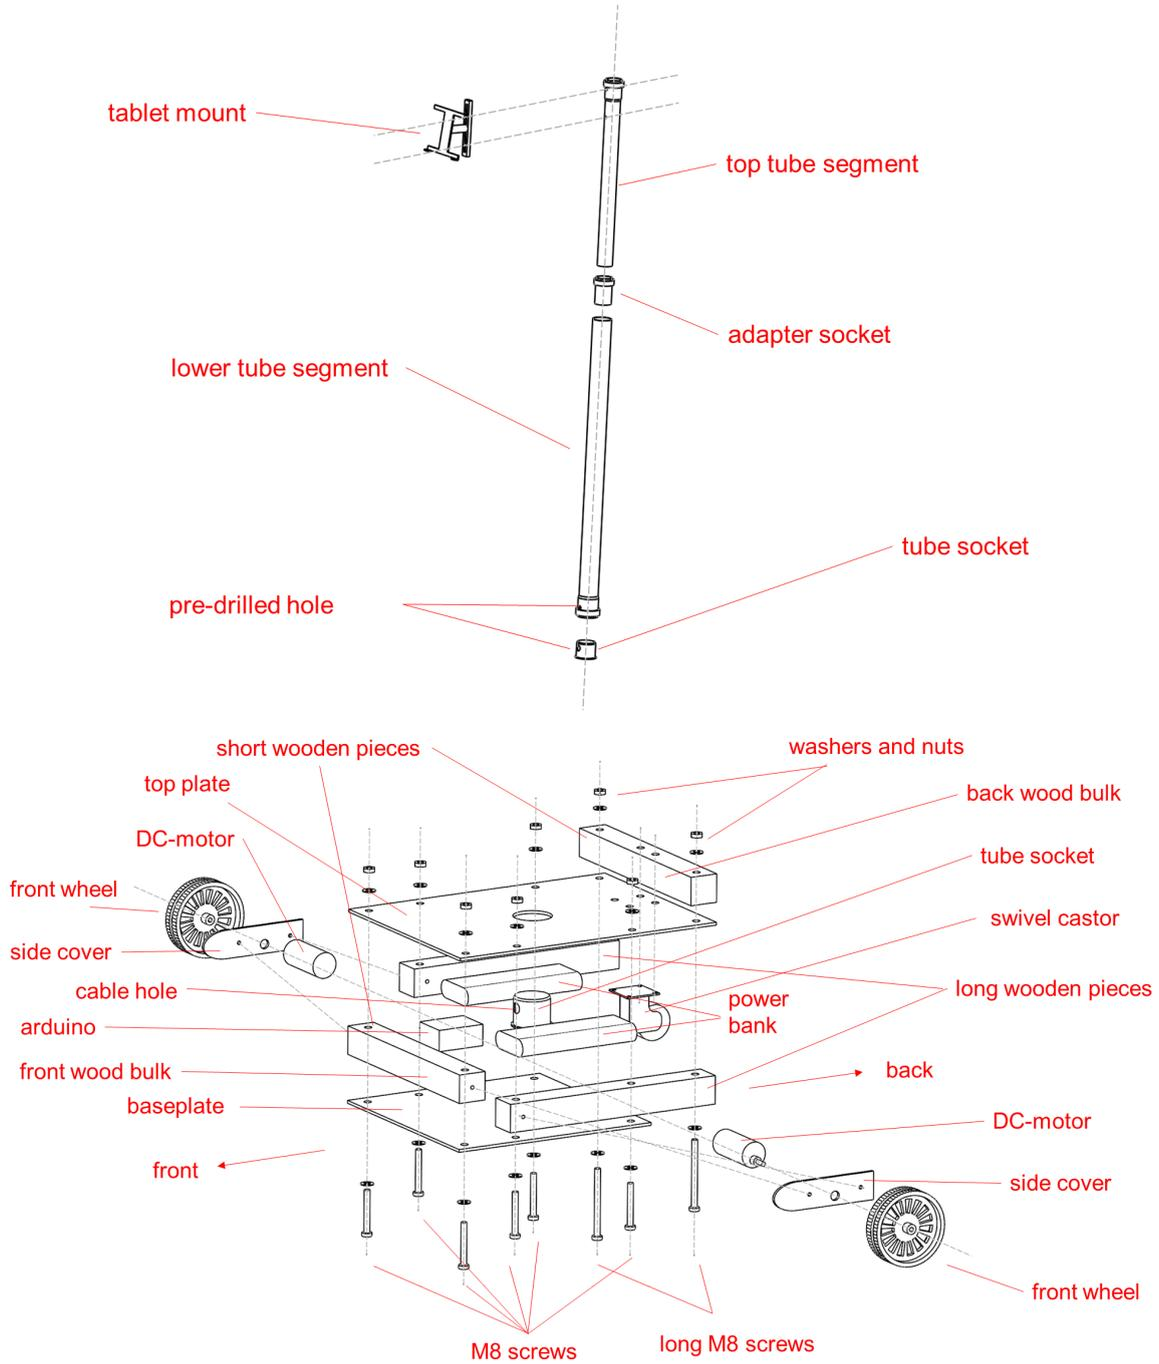

Fig. 20: Explosion view of the Telerobi
Please Note: Remove the plastic fixation clamps on the tablet mount as shown in fig. 18 (left image), e.g., by breaking them apart with pincers or drilling into them until they break. They have to be removed completely, so that only the grooves remain. The final component has to look like the model on the right in fig. 20 in order to be properly mounted.
- The Arduino and the driver shield are powered by two power banks, as shown in fig. 20.